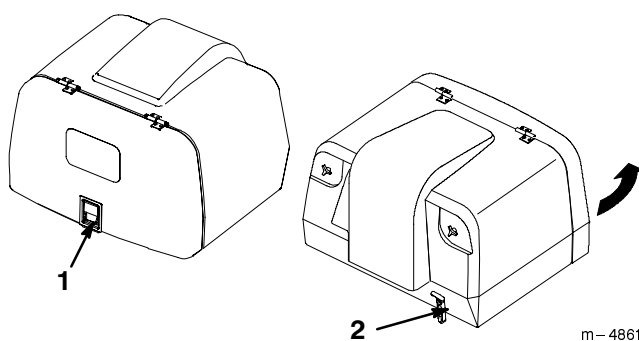

Figure 21
3. Unhook the front latch on hopper (Fig. 21).
4. Lift up on the hopper in the lower front (Fig. 21).
5. Unhook the rear hopper latch and dump the clippings (Fig. 21).
6. Lower the hopper. Secure the hopper door so it latches and secure the front hopper latch (Fig. 21).